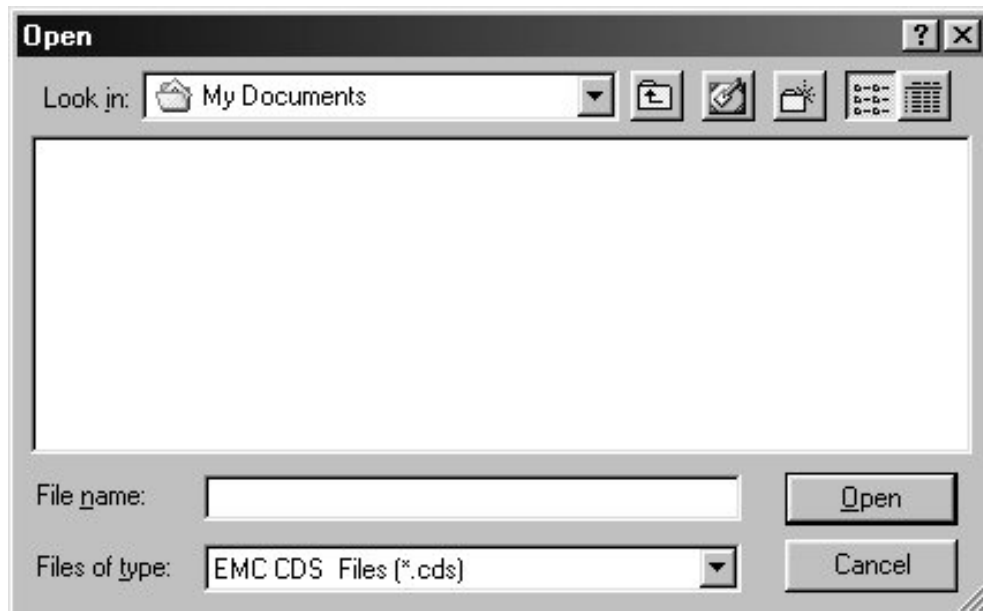

Fig.3: Open a CDS file
- Step 1: Open file:** The “Open” dialog box appears as being showed in Fig. 3. After selecting a file, then press [OK] button. The source file window appears as being shown in Fig. 4, and it consists of check sum, option, code option value and binary data.